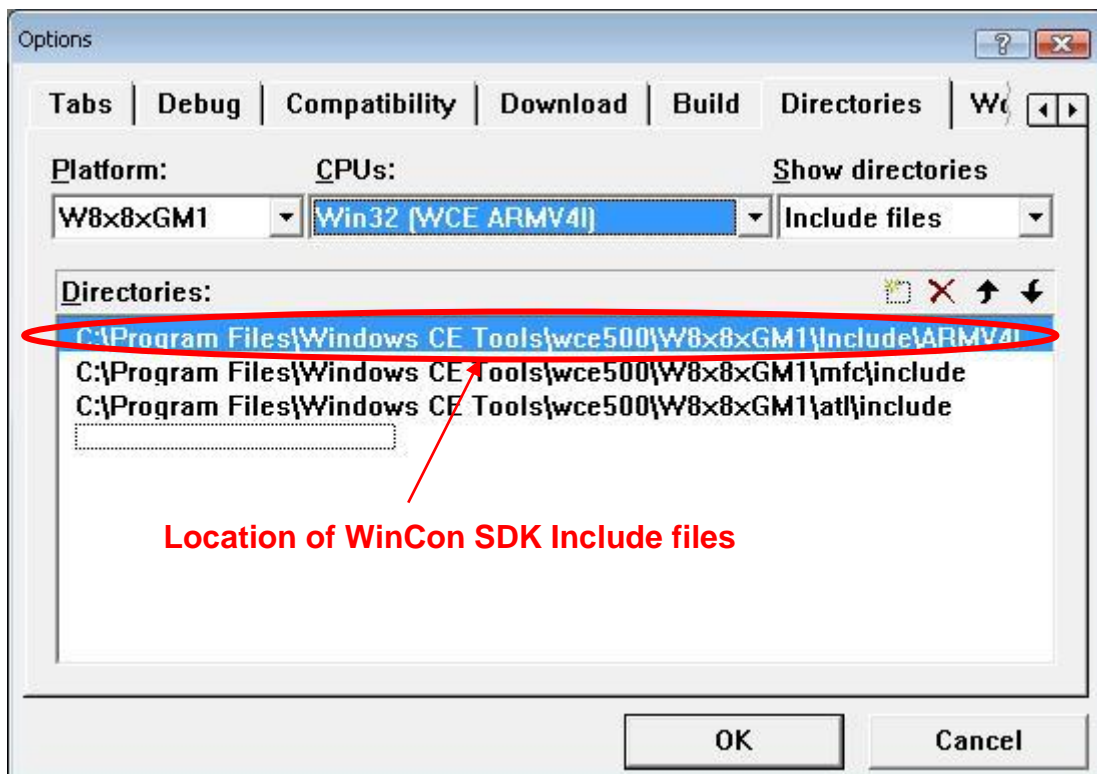

Fig. 5-1-6
4. Fig 5-1-6 display the default location of include files.